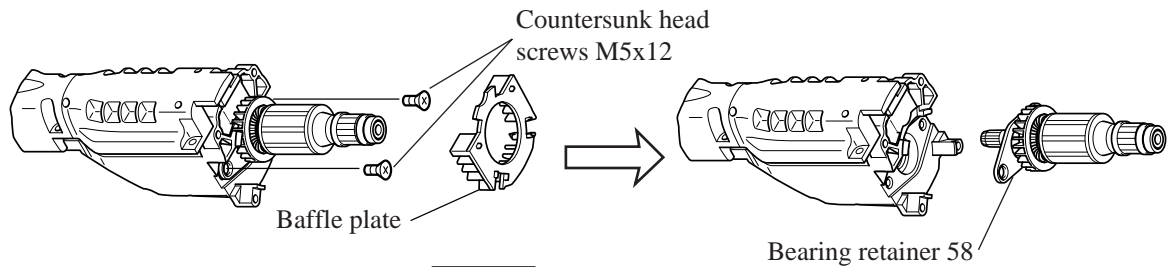

Fig. 20A
2. Remove baffle plate, and unscrew 2 pcs. of countersunk head screws M5x12, then armature can be removed together with bearing retainer 58, from gear housing section. See Fig. 20A.
< Note > Do not fasten bearing retainer 58 with the used adhesive countersunk head screws M5x12 in the step of Fig. 20A. Always use fresh adhesive countersunk head screws.